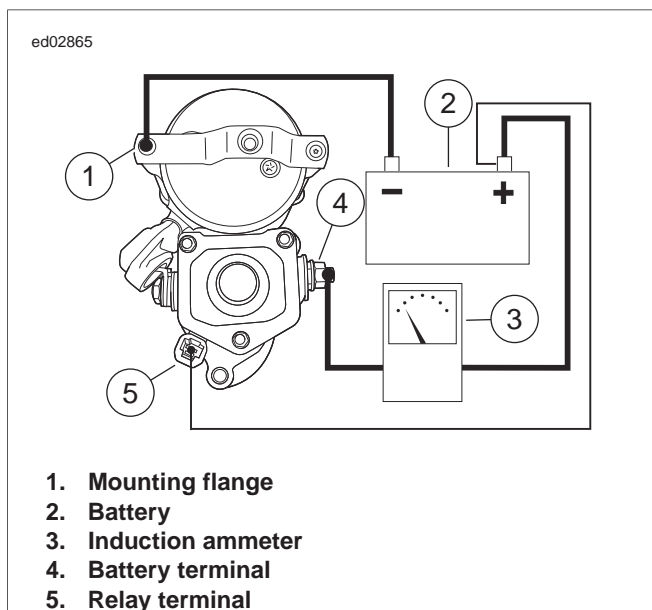

Figure 3-5. Free Running Current Draw Test
- See Figure 3-5. Attach one heavy jumper cable (6 gauge minimum).